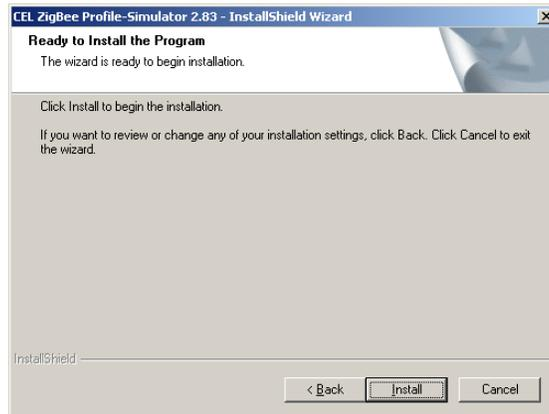
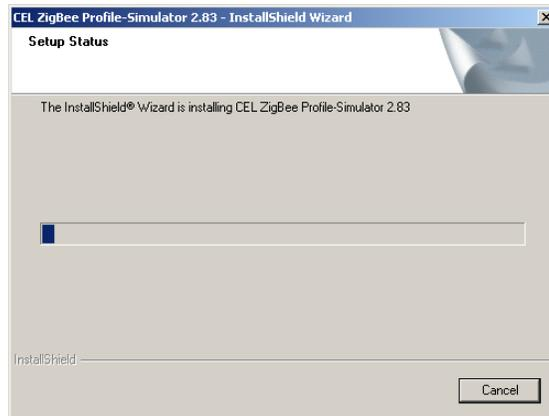

Figure 5 – Profile-Simulator, Ready to Install
Figure 6 – Profile-Simulator, Setup Status
- 6) During installation the screen in **Figure 5** **Figure 6** will be displayed.